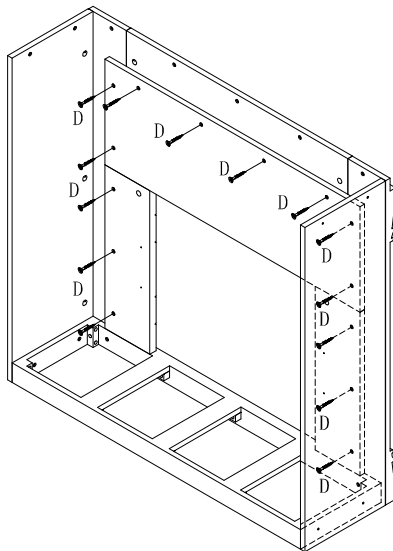

Figure 5
ATFER FINISHED FIGURE 5, PLS PUT THE TOP PANEL TO THE MAIN RELATED SPACE.THEN USE (D)WOOD SCREW TO LOCK TIGHTLY.